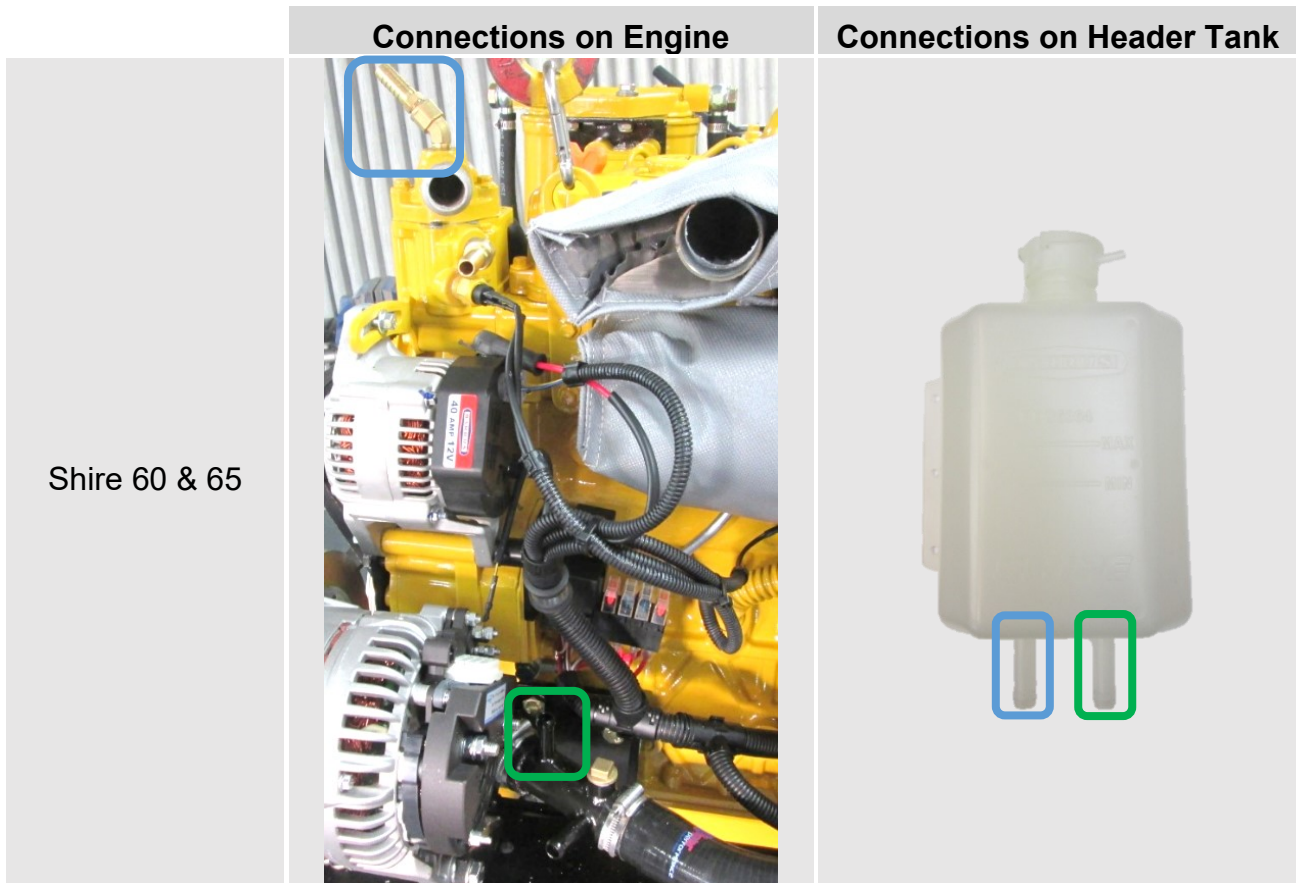

Figure 11: Header Tank Connections
- The connections for the Header Tank are shown on (**Figure 11**)